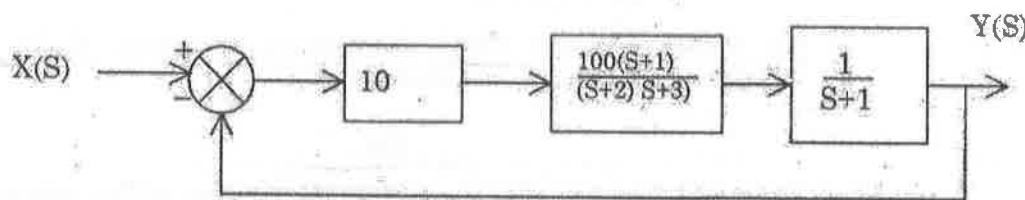

Fig. 4
12. (a) (i) For the system shown in figure 4, find the error using dynamic error coefficient method for input $r(t) = 5 + 4t + 7t^2$.